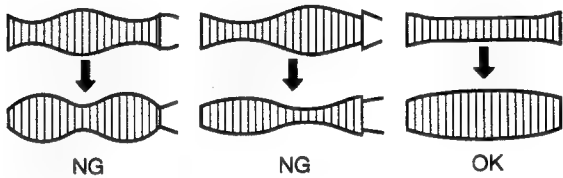

Fig. 7-3-7 Abnormal waveform variation
- 7. If the envelope varies like NG figures as shown in Fig. 7-3-7, perform the adjustment again. Smooth secondary curves are allowable level.